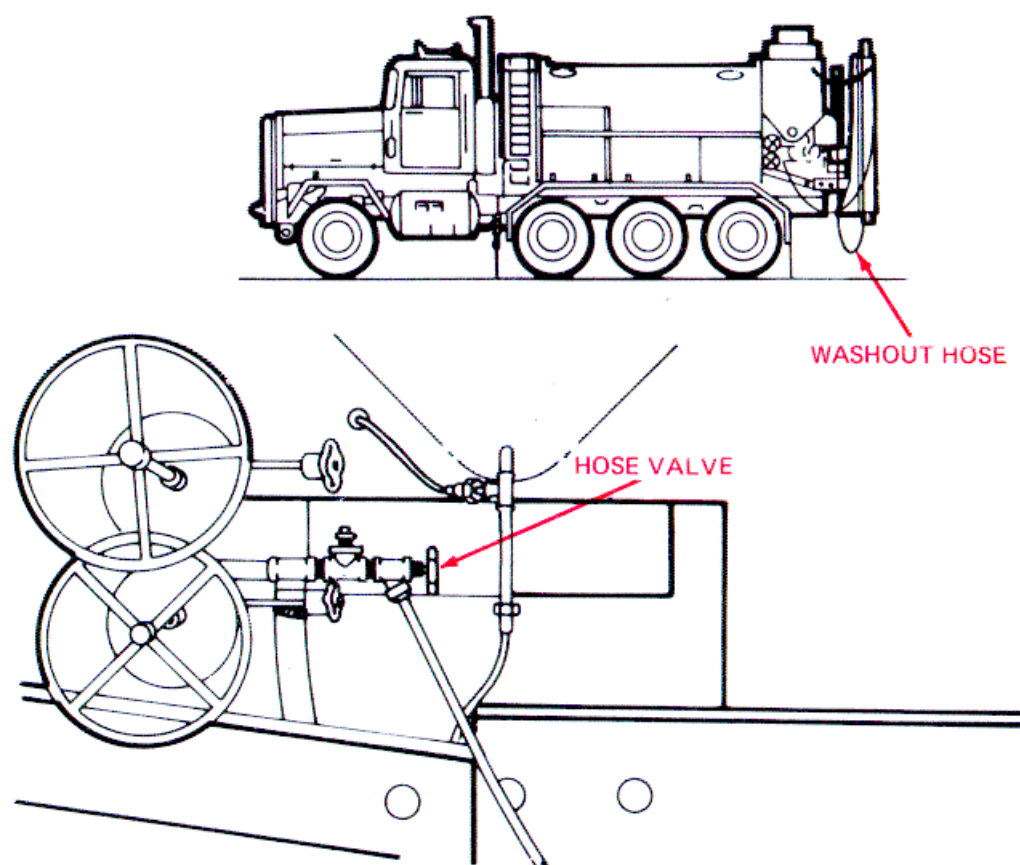

Figure 3-6. Hose Valve and Washout Hose.
- (7) Open the hose valve (fig 3-6).
- (3) Close the hose valve (fig. 3-6).
- (4) Adjust the throttle until the engine is at normal idling speed.